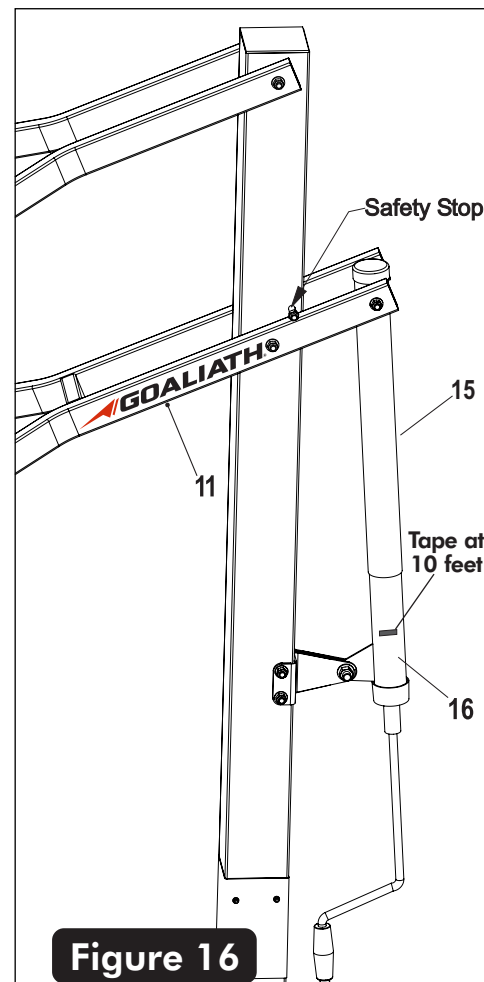

Figure 16
32. Lower backboard all the way down. Do not force actuator once backboard is in it's lowest position. See **Figure 16**.